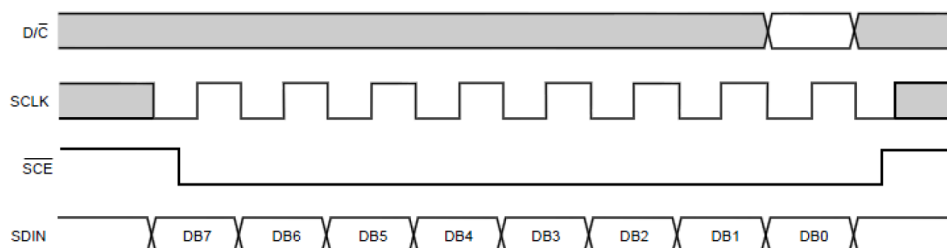

Figure 6: How the DC signal is timed with the SPI signals
The Nokia 5110 uses SPI signals to receive commands, text, and images to be displayed. As to be noticed in Figure 6 on the SPI signals that there is only one data output signal. The LCD somehow, needs to distinguish whether the data being sent is data meant to be displayed, or if it is a command meant to control the screen. This is done not through the SPI module, but “manually” through a GPIO pin. The Nokia screen has a pin named Data/Command (DC). When the DC signal is low, the Nokia interprets the incoming SPI bits as a command. Similarly, if the DC signal is high, the SPI bits are interpreted as data to be displayed. The DC signal can be set high or low long before the last bit is sent.